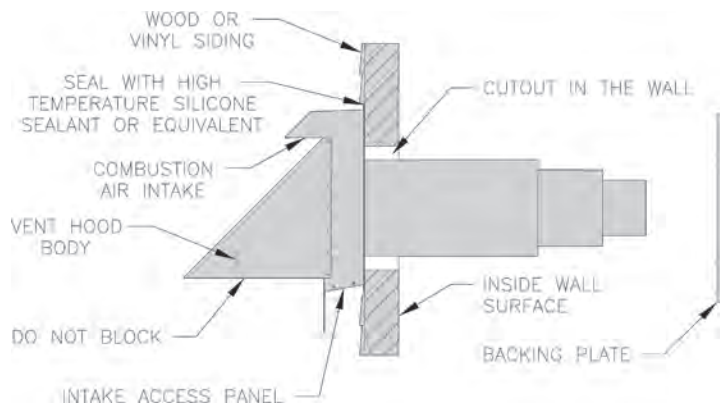

Figure 15: Vent Hood Body Installation
2. Direct Vent Conversion Kit Carton includes (see Figures 15, 16 and 17):
6. Wood or vinyl siding should be cut, so that vent hood base plate mounts directly on the wallboard to provide stable support. If siding thickness exceeds 1/2”, use a spacer bar or board behind the vent hood mounting (base) plate. See Figure 15.